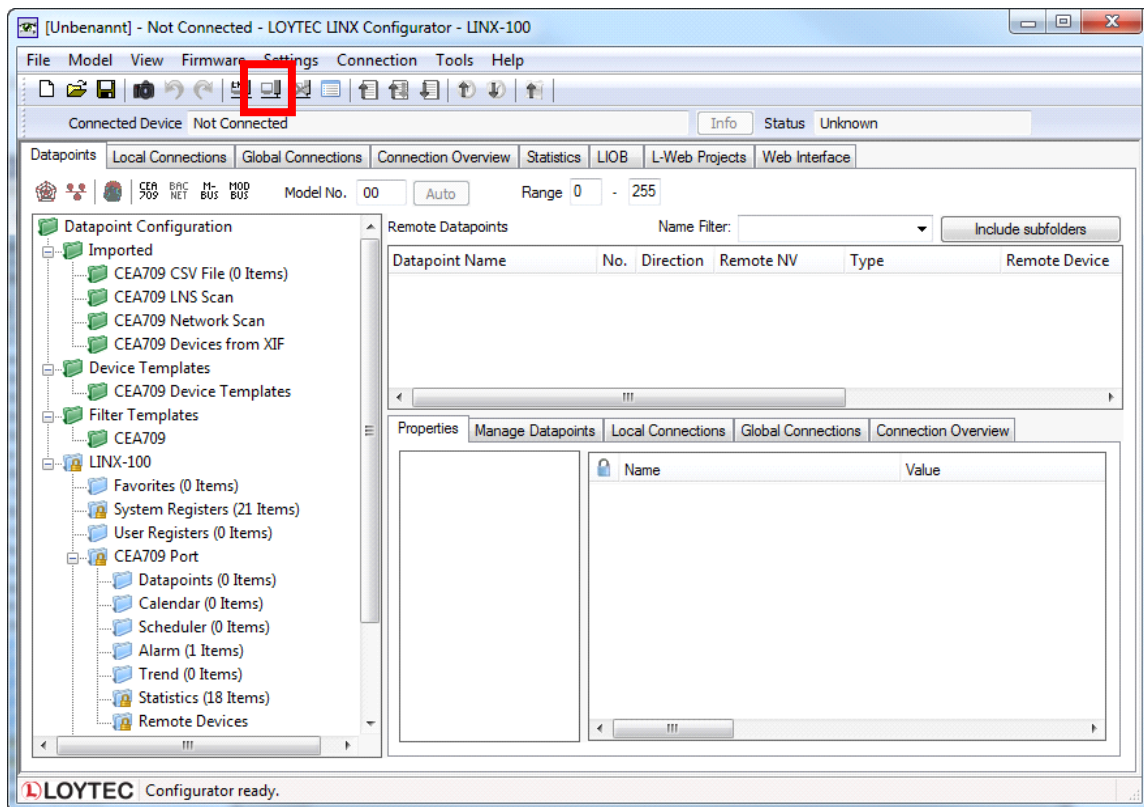

Figure 1: LINX Configurator main screen.
1. Start the LINX Configurator software by selecting Windows **Start → Programs → LOYTEC LINX Configurator → LOYTEC LINX Configurator**. The application starts up and displays the data point manager screen as shown in Figure 1.
2. When the device is online, connect to the device by clicking on the **Connect to device** speed button as indicated by the red rectangle in Figure 1.